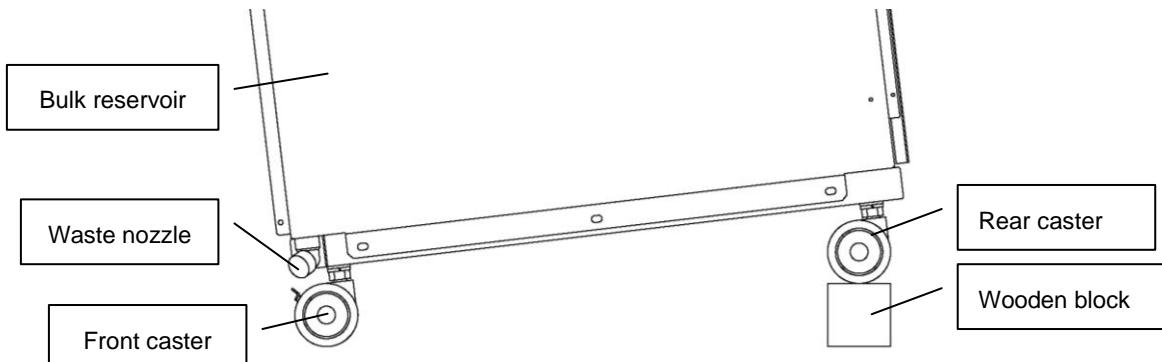

Fig.4-9-1-1 Tilting the instrument
(3) Turn the instrument power off.
(4) Remove the paraffin containers from the oven and reagent bottles and the wax drain container from the bottle rack.
(5) Place a waste tray under the drain nozzle (Fig. 4-9-1-1) for the bulk reservoir to be drained. Loosen the hexagon plug at the drain nozzle to drain a reagent remaining in the bulk reservoir.
- (6) Confirm that the front caster is locked by its stopper. While the waste tray stays under the waste nozzle as it is, slowly jack up the rear side of the instrument and place the rear caster on a wooden block to tilt the instrument.